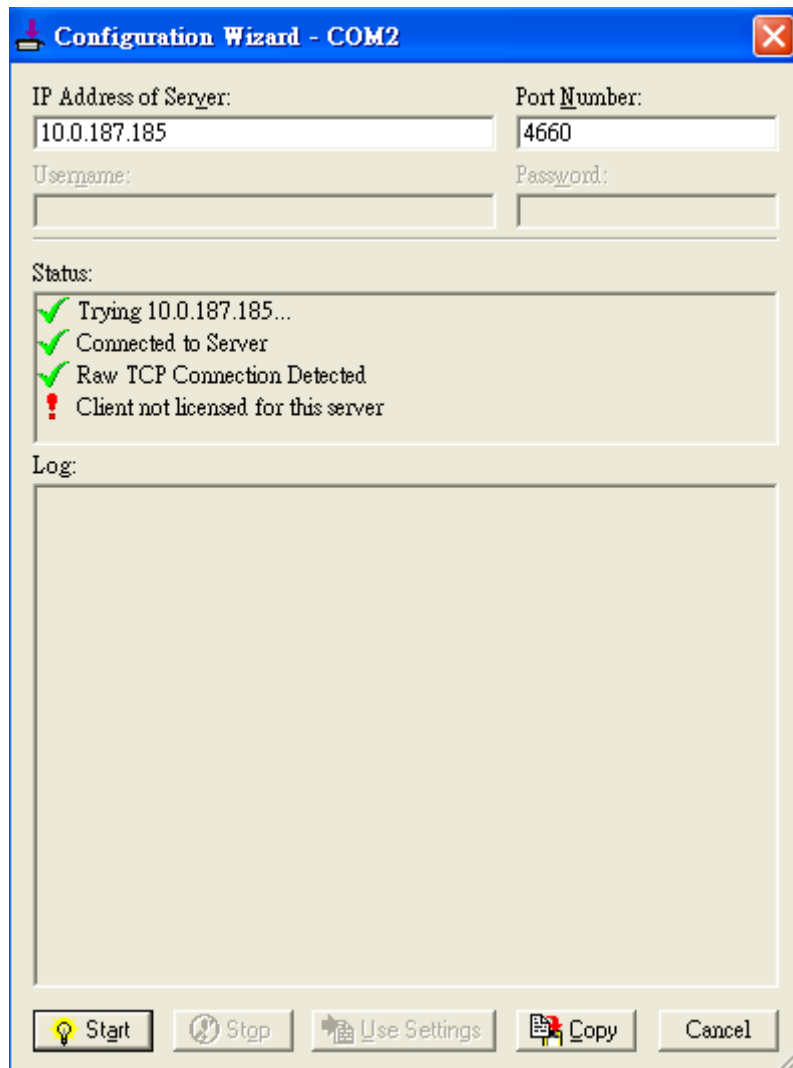

Figure 4.11 Virtual COM Raw Connection Exception
- b. If there is a check with **Raw Connection Detected** and an exclamation mark with **Client not licensed for this server** (Figure 4.11), enable Virtual COM in the serial device server.